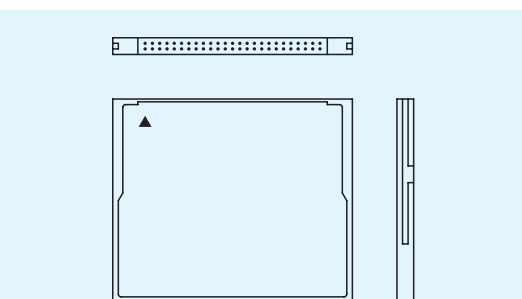

Fig.9 CompactFlash (Type I)
3. Compact Flash (Type I) shall be prepared by customer. (Refer Fig.9)